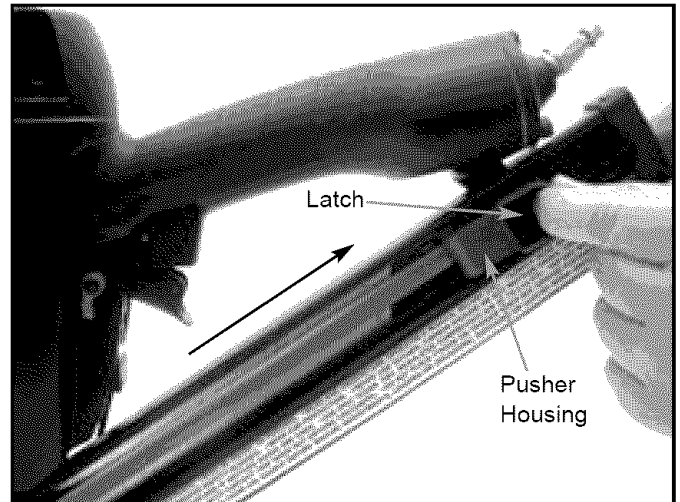

Figure 9 - Release Tension from Nail Strip
Refer to Figures 9 and 10 (pages 5 and 6).
- Pull pusher housing back until pusher is clear of nails. Then depress latch and allow housing to slide to the front of the magazine (see Figure 9).